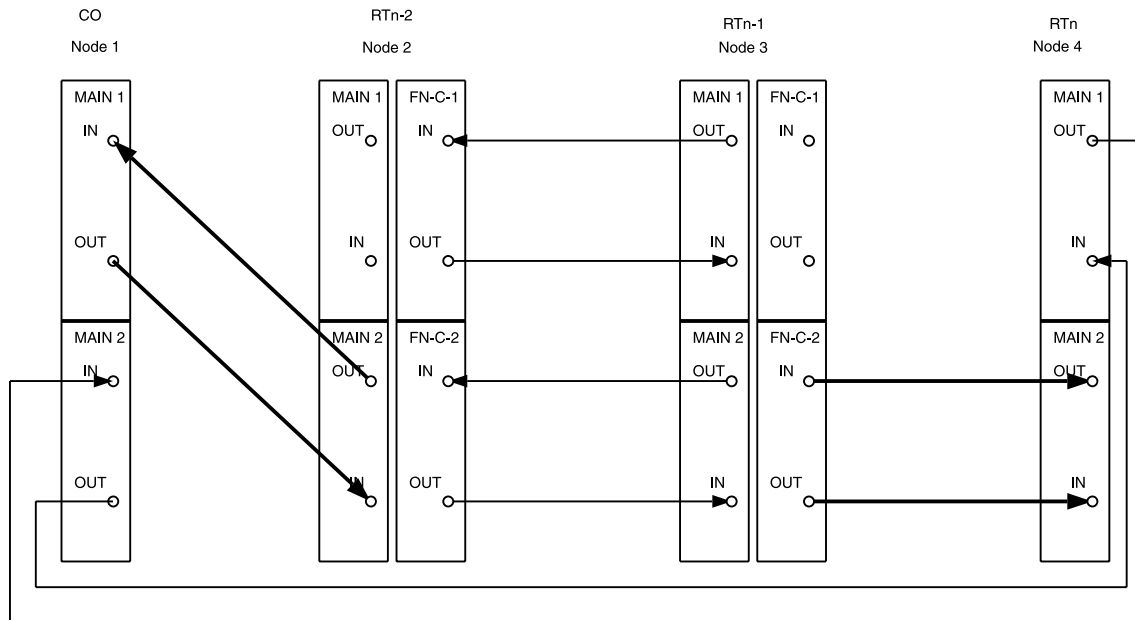

Figure 19 – DDM-2000 OC-3 Drop or Add/Drop Network to Ring Upgrade
Connect optical fiber from Node 1 (CO) **MAIN 2(P) OUT** to last Node 4 (RTn) **MAIN 1 IN**. Connect optical fiber from Node 1 (CO) **MAIN 2(P) IN** to last Node 4 (RTn) **MAIN 1 OUT**. (See Figure 19.)